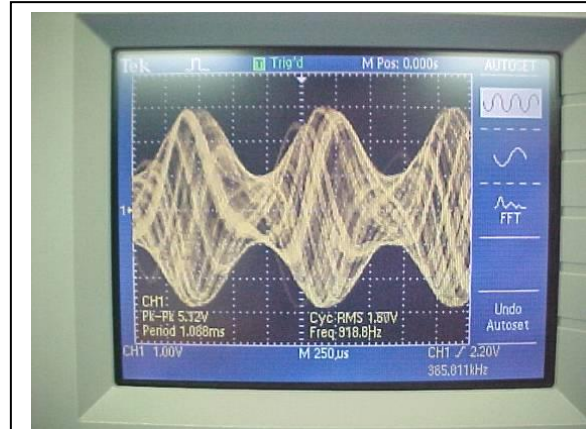

Figure 1.6: An amplitude modulated wave with approximately 50% modulation
1. Here we will use the BK Precision 4040 function generator to create an amplitude modulated signal, which you will view on the scope (see Figs. 1.6 and 1.7)
- Adjust the scope's Trigger Level knob until you get an amplitude modulated signal similar to the one in Figure 1.6.